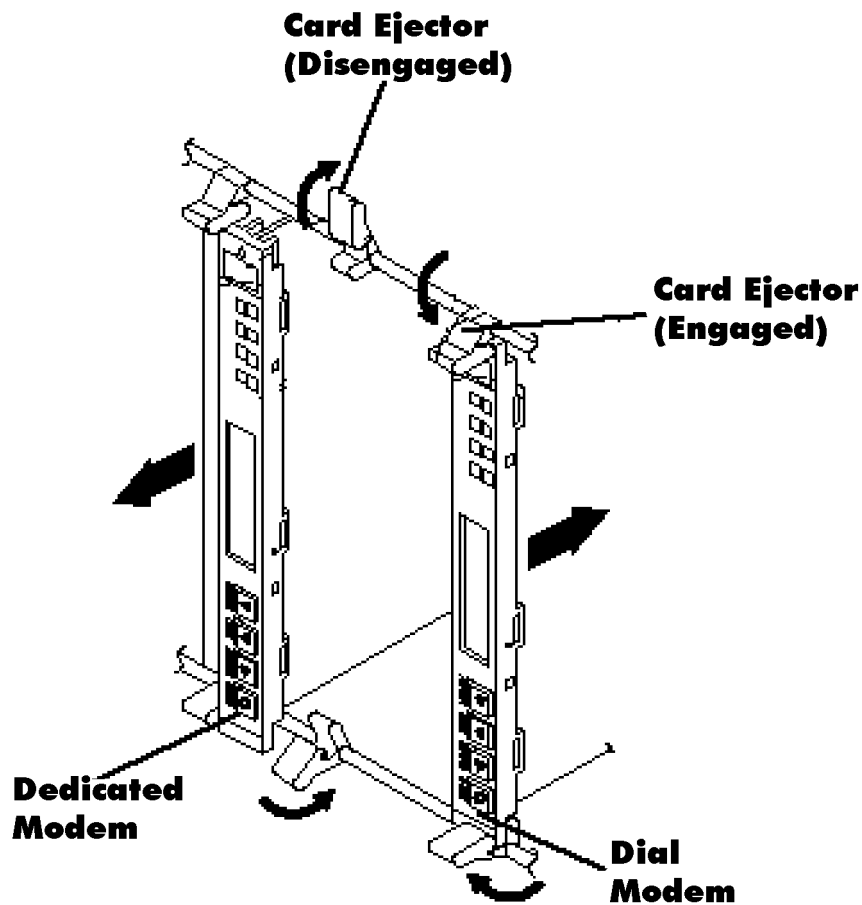

Figure 3 Dial (Codex 3262) and Dedicated (Codex 3263) Modem Card Removal and Replacement
- e. Remove the filler plate from the number one (1) slot of the enclosure by rotating the card ejectors that hold the plate in place. Carefully guide the plate out from the enclosure as shown in Figure 3.
- g. Install replacement unit by sliding card into enclosure while ejectors are in the disengaged position as shown in Figure 3. When the card makes contact with the ejectors, swing the ejectors inward toward the card and press firmly to ensure proper seating of the card.